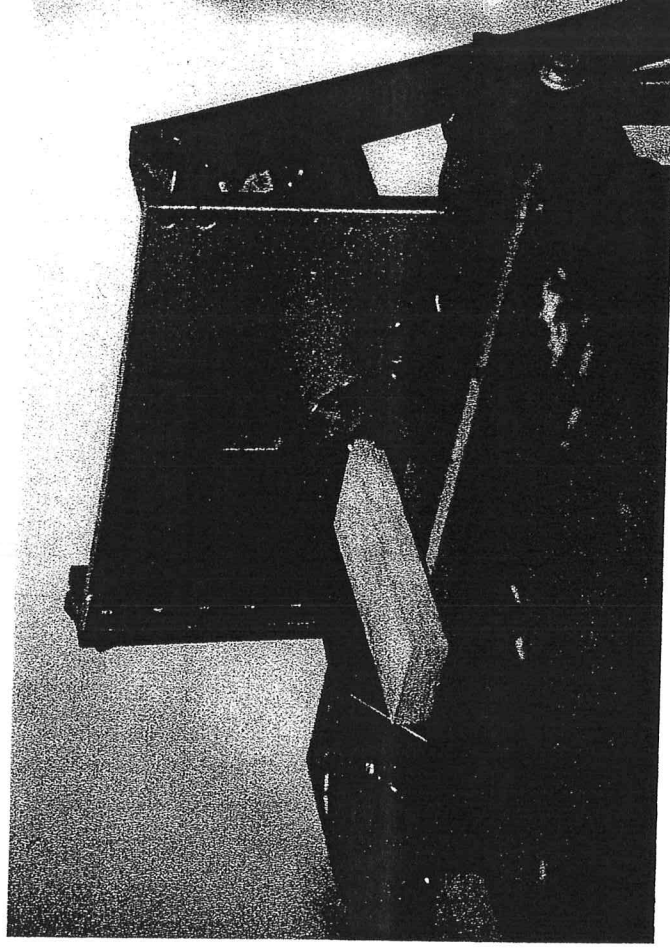

Fig. 8
3. Lower table $3\ 1/2$ turns. With piece A flat on table, make a rabbet cut across the end. (fig. 8)